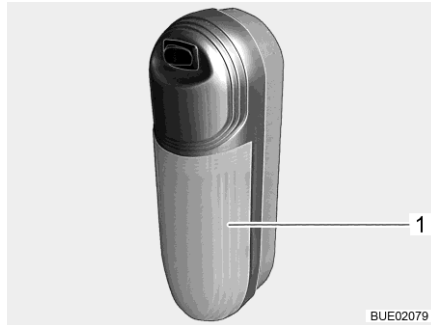

Fig. 294 Surface mounted light
- Pull transparent cover (Fig. 294,1) slightly away from switch and remove it.